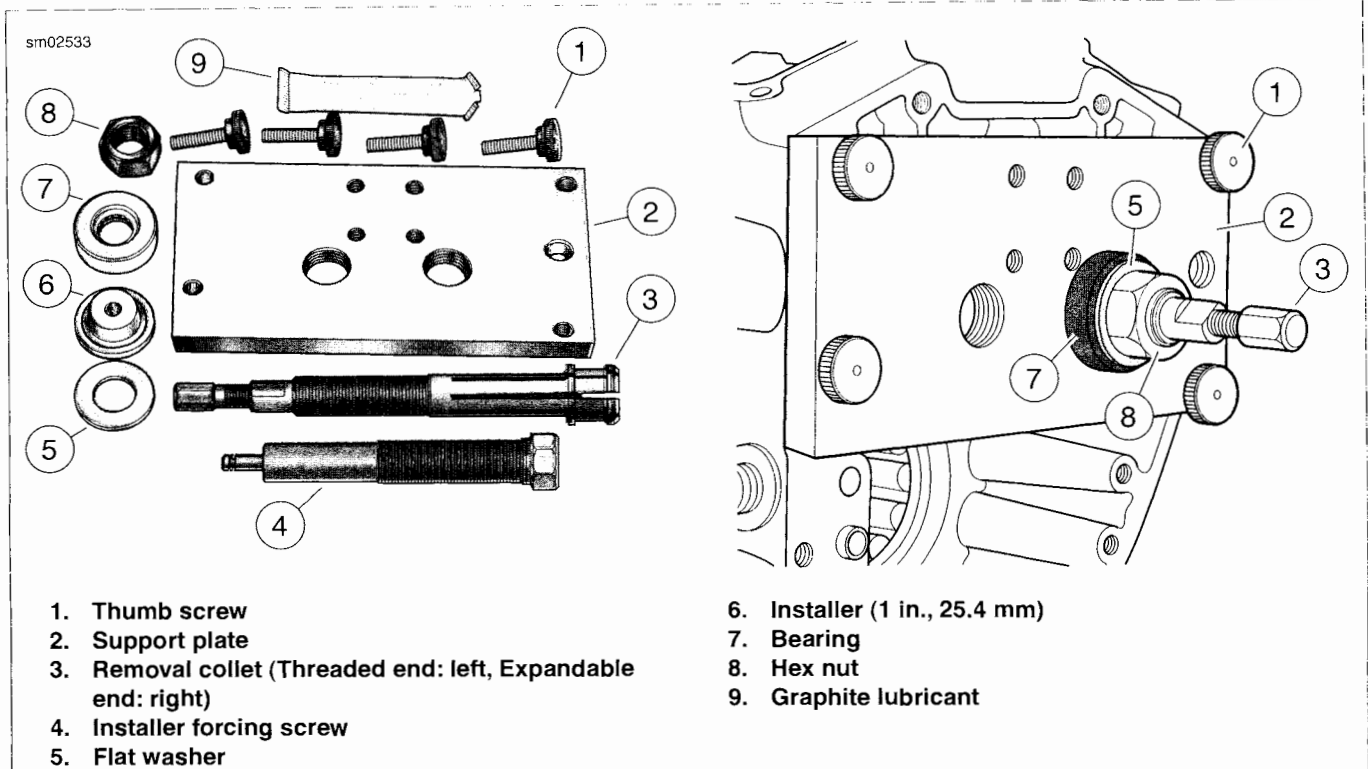
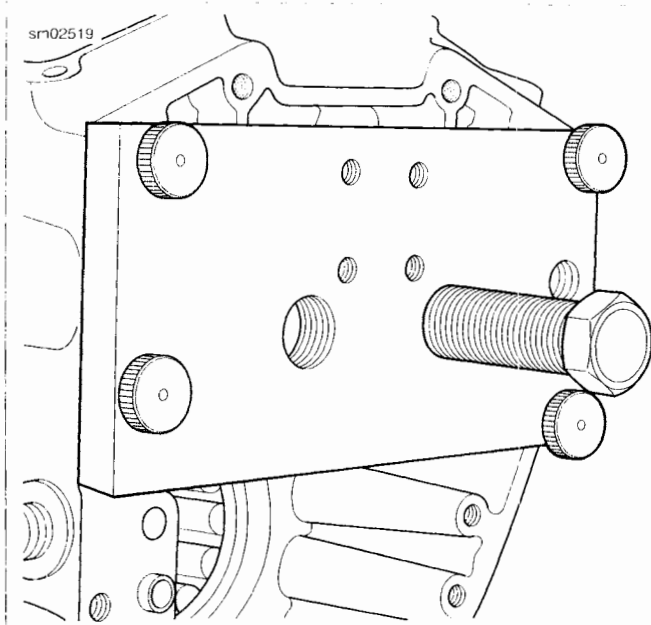

Figure 3-132. Camshaft Needle Bearing Remover/Installer (Part No. HD-42325-A)
Figure 3-135. Installer Forcing Screw Installation
2. See Figure 3-132. Remove four thumb screws (1) from threaded holes in support plate (2), if installed.
3. Sparingly apply graphite lubricant (9) to threads of collet (3) to prolong service life and verify smooth operation.
7. Center expandable end of collet in bearing bore and slide bearing (7) and flat washer (5) on threaded end. Start hex nut (8) on threaded end.
3. See Figure 3-132. Sparingly apply graphite lubricant (9) to threads of installer forcing screw (4) to prolong service life and verify smooth operation.
4. Thread installer forcing screw into stamped side of support plate (2) until threads begin to emerge from opposite side.
5. Place installer (6) at end of installer forcing screw.
7. See Figure 3-135. Aligning two large holes in support plate with needle bearing bores, hang right side of plate on ring dowel in crankcase flange.